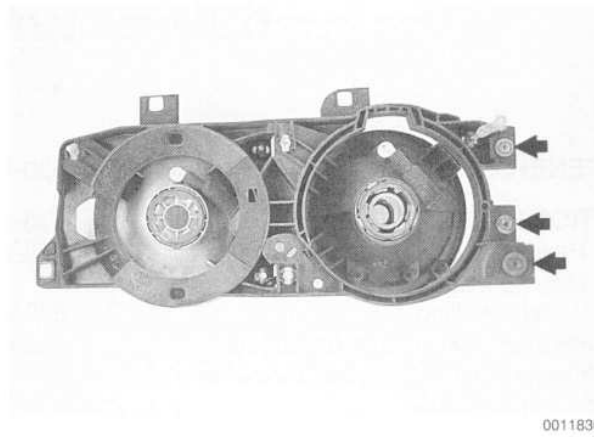

Fig. 4. Headlight assembly rear mounting screws (**arrows**).
5. Remove screws from rear of headlight assembly. See Fig. 4.